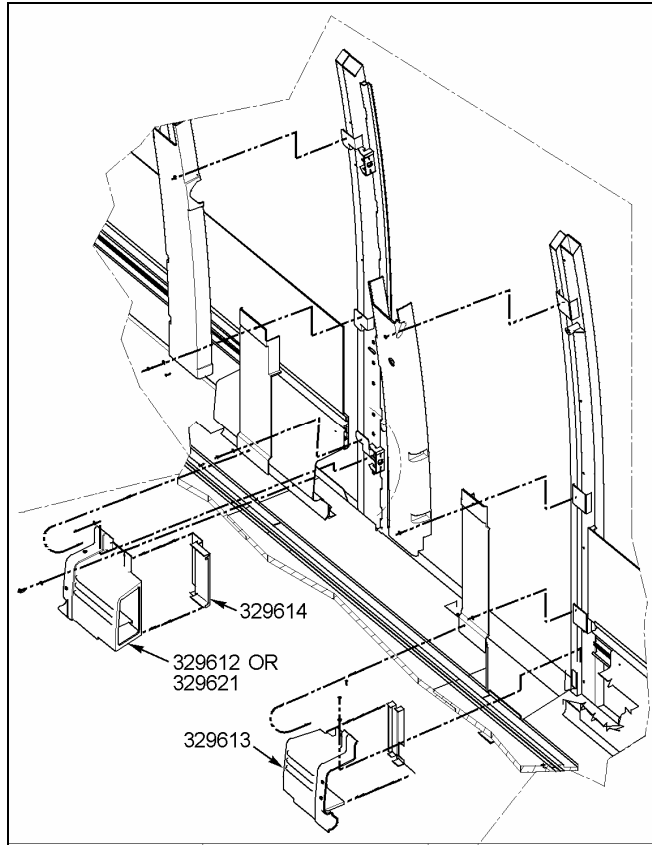

FIGURE 4
- 4) Fix the air ducting closing part (329614) onto the air ducting front end part (329612 or 329621) then install the air ducting front end part (Refer to figure 4).
- 5) Install air ducting rear end part (329613) (Refer to figure 4).